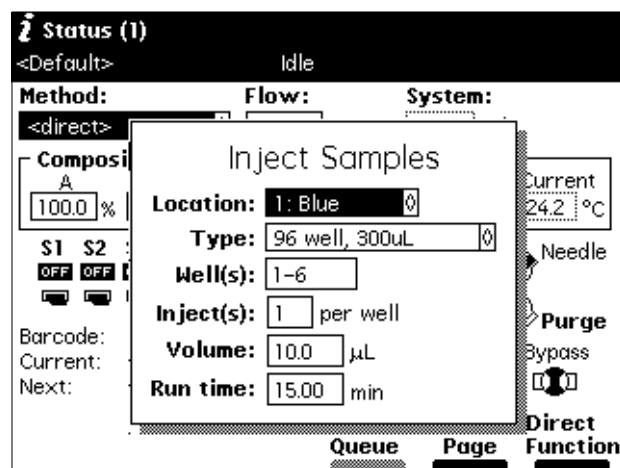
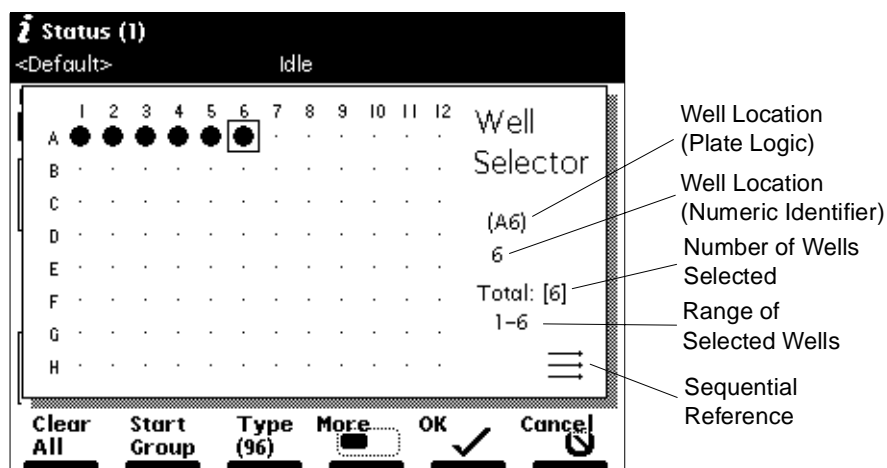

Figure 4-14 Inject Samples Dialog Box
Figure 4-15 Well Selector
6. Select **Inject Samples**, then press **Enter**. The Inject Samples dialog box appears (Figure 4-14), displaying six parameter fields. Table 4-3 describes the parameters in the Inject Samples dialog box.
To access the Well Selector when you are performing an Inject Samples direct function (Figure 4-14), press the **Plate** screen key. The Well Selector is displayed (Figure 4-15).